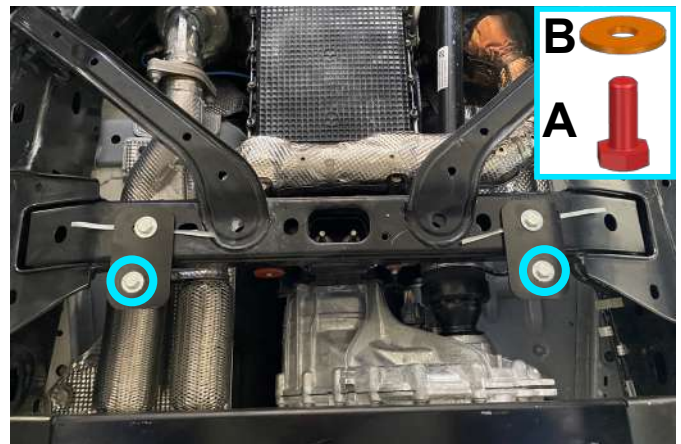

Fig. 8
7. Place bolts M10x25 (item A) and washers 10 (item B) to brackets (item C), as shown in fig.8.